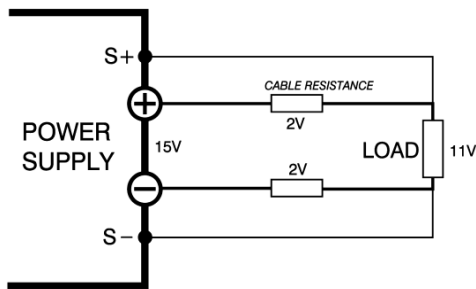

Figure 6.6: Remote sensing, voltage drop in load leads subtracts from maximum DC output.
- To compensate for the voltage-drop across the load leads, the unit will have to supply a higher voltage at the output to provide the desired voltage at the load, see Figure 6.6.